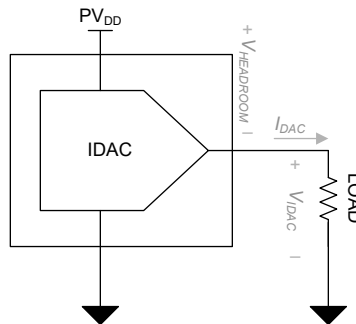

図 8-2. IDAC Power Dissipation
- The power dissipation of the IDAC channel is a function of the  $PV_{DD}$  supply voltage, the current output, and the voltage of the IDAC pin ( $V_{IDAC}$ ). The headroom voltage ( $V_{HEADROOM}$ ) is calculated as the difference between  $PV_{DD}$  and  $V_{IDAC}$ . Minimize  $V_{HEADROOM}$  to reduce the power dissipation of the device while also meeting the minimum  $V_{HEADROOM}$  requirement. The IDAC output cannot source the full-scale current output if  $V_{HEADROOM}$  is lower than the specified voltage. 図 8-2 shows the output current directions and the key voltages that impact power dissipation. The IDAC output contributes to power dissipation proportionally to the output current multiplied by the  $V_{HEADROOM}$  voltage.